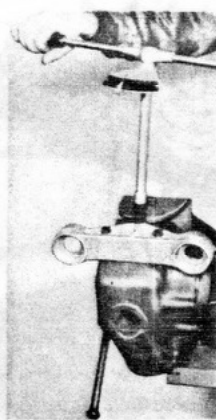

Fig. 19
7. Screw mounting on to rear axle casing (Torque 36 ft/lb or 5 m/kg). Secure screws with wire (Fig. 19).